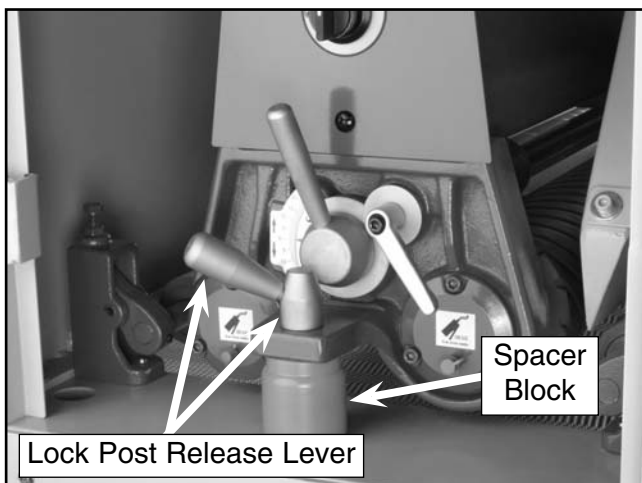

Figure 15. Components used when changing a sanding belt.
3. Remove the lock post release lever (**Figure 15**) by turning it counterclockwise $\frac{1}{2}$ turn and pulling it up and out of the mounting hole.
4. Remove the spacer block (**Figure 15**).